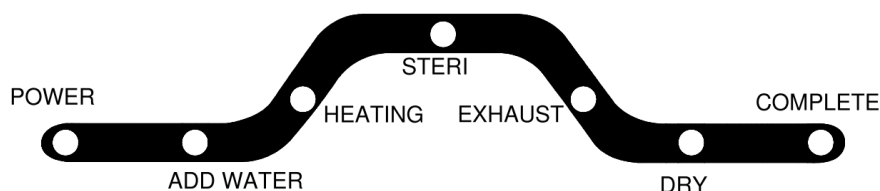

Figure 14
D. Press the **START** button, and the sterilizer will automatically run through the selected program. The current progress of the sterilization cycle is indicated by the illuminated LED on the Process Status Indicator. (Figure 14)